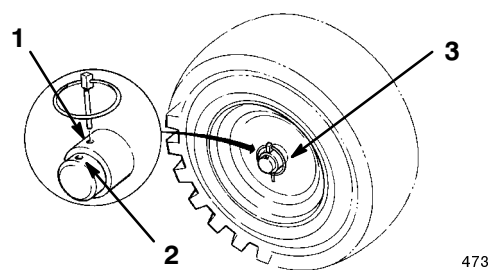

Figure 4
7. Slide the wheels inward and install the axle pin through the holes in the wheel hub and through the **inner** hole of the axle (Fig. 4).